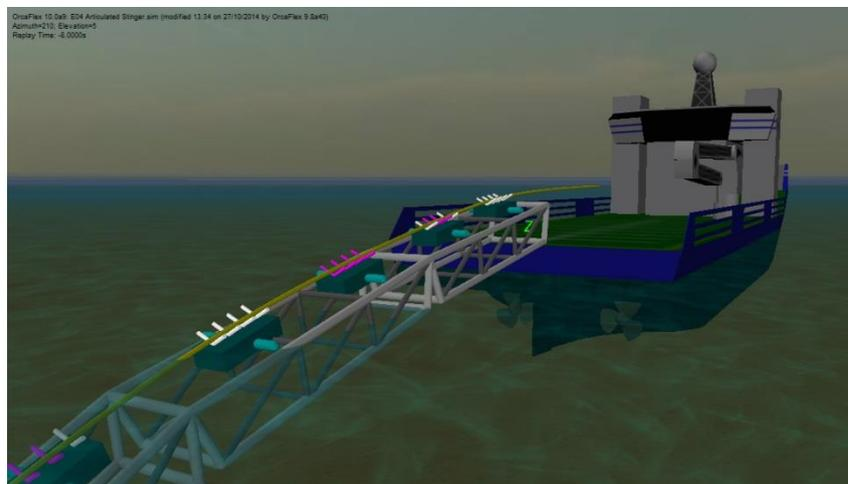

Figure 6-1: Supports on a Pipelay Stinger
- Pipelay stingers (Figure 6-1)